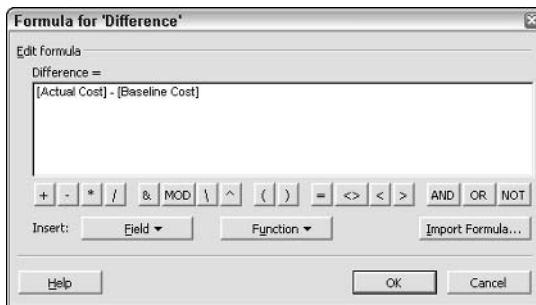

Figure 23-5: This dialog box lets you define the values that you want Project to display in the pick list during data entry.
4. Click the Formula button to display the Formula for dialog box. Figure 23-5 shows the formula that I set up for this example.